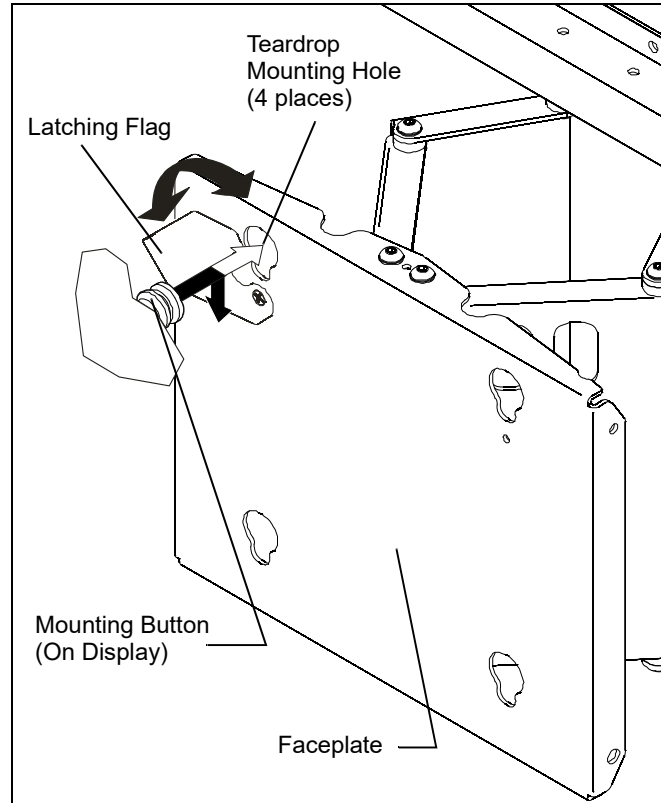

Figure 6
2. Lower latching flag. (See Figure 6)
4. Align mounting buttons on display with teardrop mounting holes in mount faceplate (See Figure 6).
6. Lower display until the recessed area of all four mounting buttons is seated in the lower area of teardrop mounting holes in faceplate. (See Figure 6)